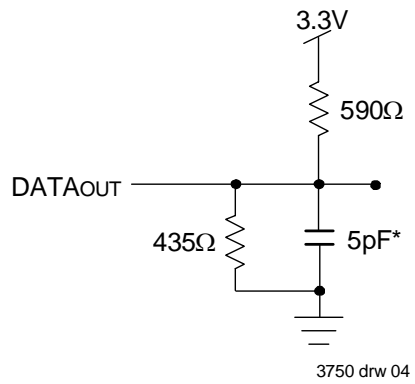

Figure 2. Output Test Load
- Transition is measured 0mV from Low or High-impedance voltage with the Output Test Load (Figure 2).
- Transition is measured 0mV from Low or High-impedance voltage with the Output Test Load (Figure 2). This parameter is guaranteed by device characterization, but is not production tested.
1. Transition is measured 0mV from Low or High-impedance voltage with the Output Test Load (Figure 2).